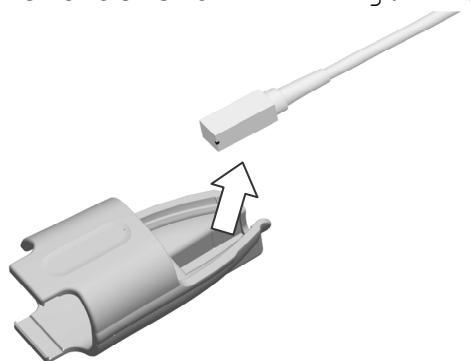

Fig. 12 How to release the Magnetic sensor from the Magnetic sensor attachment
- 2) Release the magnetic sensor from the magnetic sensor attachment as shown in Fig. 12.